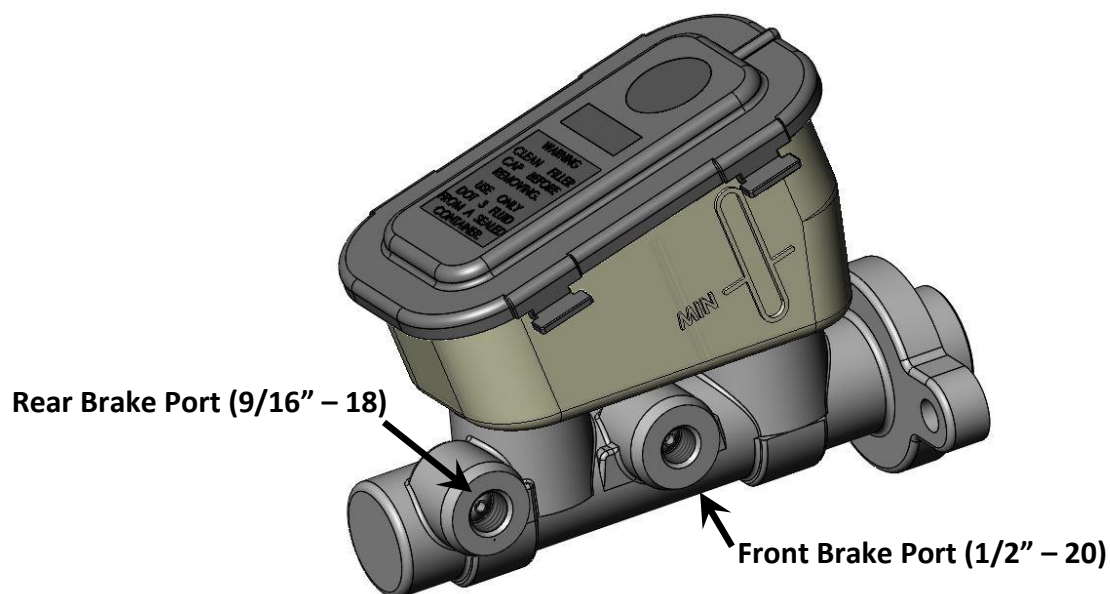

Figure 2 - Brake Line Orientation
9. Route the brake lines from the master cylinder to whatever valve is being used in the system. Refer to Figure 2 below for proper orientation of the brake lines to the master cylinder. If installing with a Master Power Brakes Combination Valve and bracket, refer to those instructions on proper plumbing of the valve.